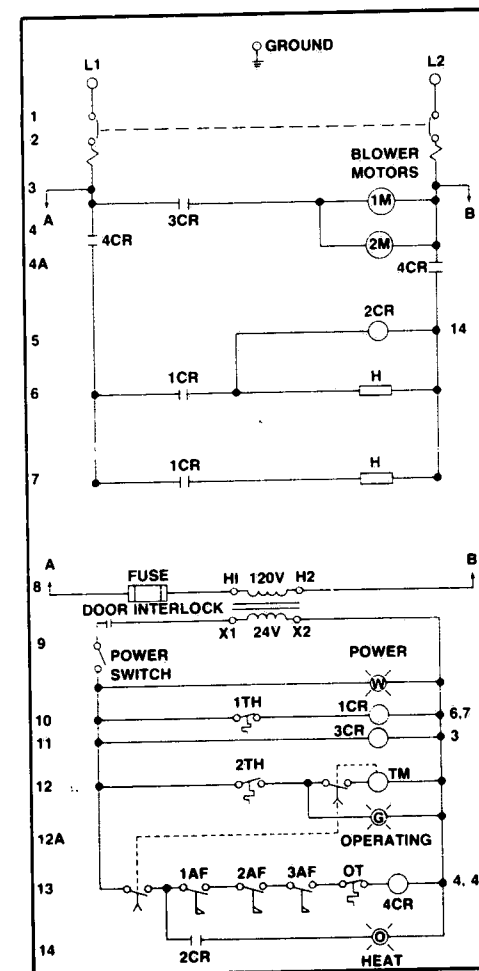

Figure 3-1. AERATOR ELECTRICAL CONTROL SCHEMATIC.
Before using the following circuit descriptions (Par. 3-4), several things should be understood about the electric schematic (Figure 3-1), namely, the general conditions applicable to the operational sequence.
3. Use the control system descriptions (Section 3) and electric schematic (Fig. 3-1) as aids in understanding system operation and how the malfunction of a specific component would affect it. Use the operational test (Par. 5-3) to confirm and correct suspected temperature sensing malfunctions.